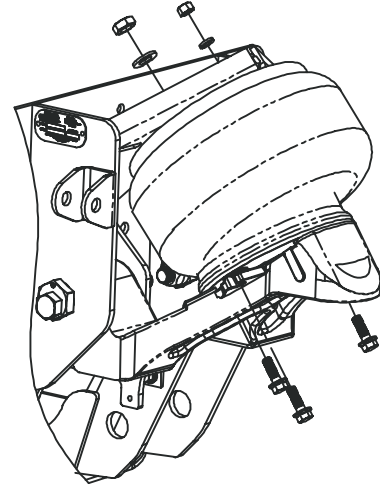

Figure 25 - Air Spring Upper Mount
2. Remove the bolts that secure the air spring to the upper control arm. (See Figure 25).
3. Remove the nuts and washers from the upper air spring mount studs. (See Figure 25).